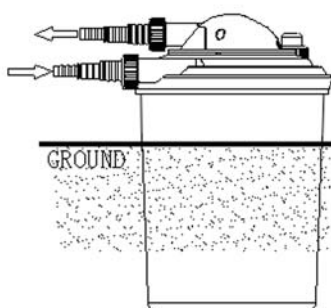

Figure 1
1. Choose a suitable place to install the filter at the pond side. Dig a six inch deep channel to/from the pond to allow you to bury and conceal the tubing once connected. You will also need to create a hole to partially bury the bio-filter while keeping it in an upright and level position. The filter can be buried in the ground up to the filter clips.(See figure 1)
1. Your filter is designed to let you know when filtration performance declines. Your filter is equipped with a colour-coded pressure indicator located on the container lid. When your filter is operating effectively, the pressure indicator will display green. If flow rate within your filter drops, performance also declines and the pressure indicator will display RED.(See figure 1)